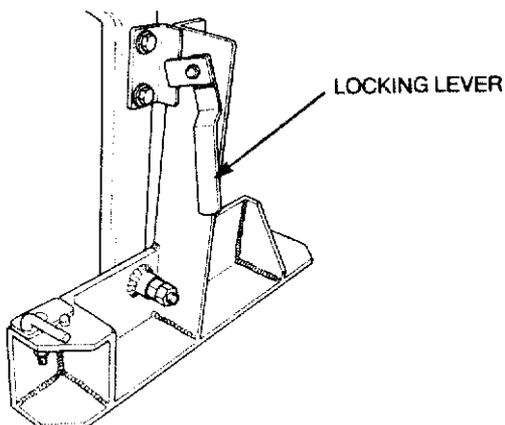

Figure 4-13 Bench locking lever — right hand
- b. Support the bench with one hand and release the locking lever at the right hand bench support (see Fig. 4-13).